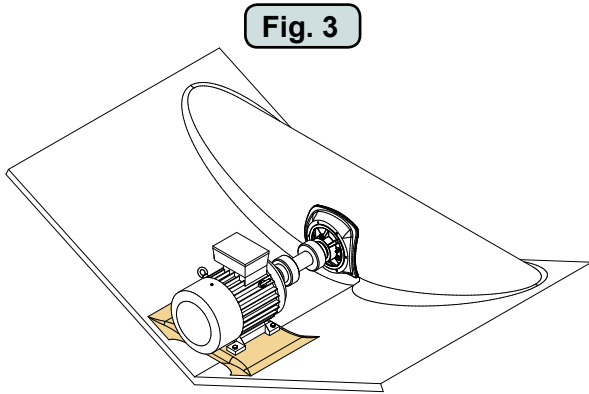

Fig. 3
3. Grind off the gel coat to the "real fibreglass" area 12cm around the hole on both inside and outside the hull to cast the tunnel to the hull (**Fig. 3**).
The motor must be mounted on separate bedding placed according to **(fig. 3)**. The bedding must be rigid and dimensioned to support the weight and torque specified in the technical data of the product.